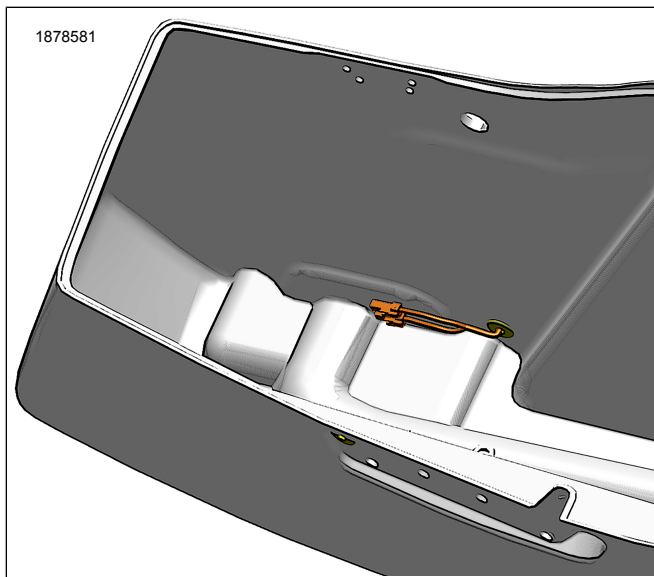

Figure 4. Pagruruta ng Jumper Harness
3. Figure 4 Kung ang pag-install ng Saddlebag Interior Lamp Kit (Bahagi Blg. 68000425) na may Saddlebag Marker Lamp Kit (Bahagi Blg. 68000372), hiwalay na pagbili ng dalawang Rear Accessory Wire Harness jumper (Bahagi Blg. 69203366).